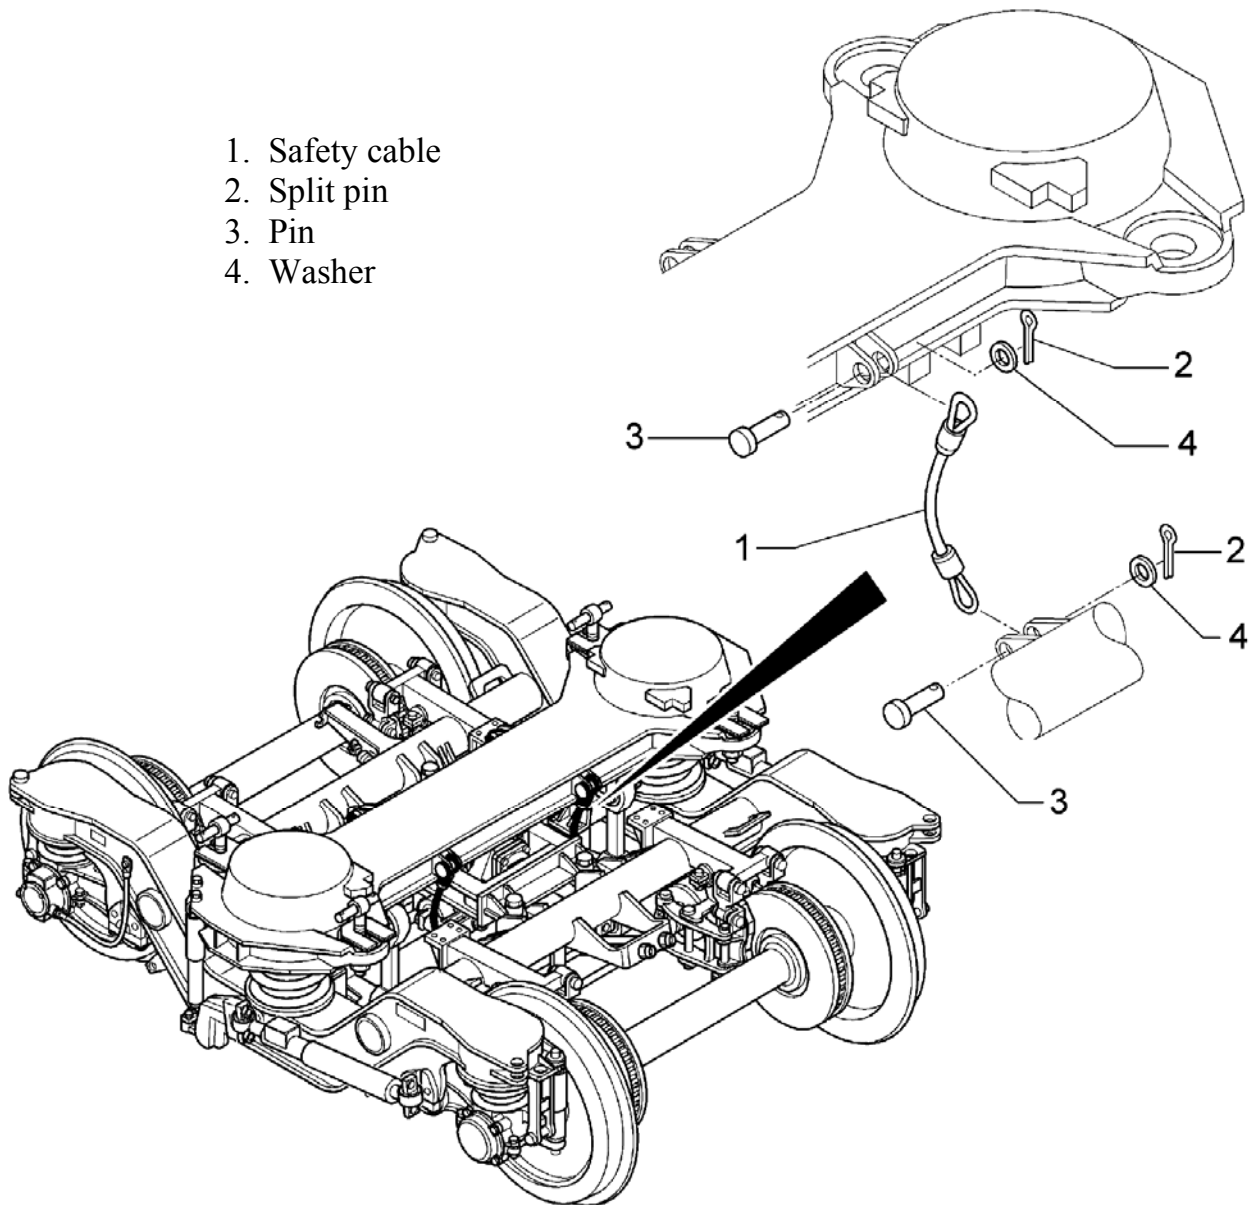

FIG. 4.25 SAFETY CABLES REMOVAL
In order to remove the four safety cables (1 - FIG. 4.25) which link the bolster beam to the bogie frame, extract the split pins (2), extract the pins (3) from both ends and recover the washers (4).